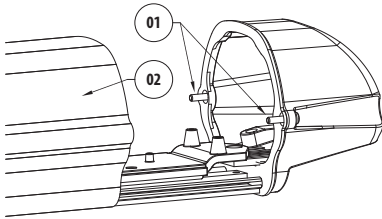
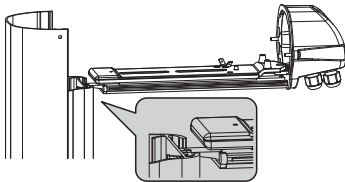

Fig. 01
Fig. 02
To open the housing (Fig. 01) unscrew the 2 screws (01) placed on the side in the middle of the rear cover plate, take the body out (02), hang it (Fig. 02) onto the suitable holder and leave the internal and external slides in the working position. Before closing the housing take off the protective nylon and put silicagel salts envelope into.
Fix the printed circuit on the slide's pre-arranged studs near the rear cover plate (Fig. 01, 03). Carry out the connections of the circuit to the external source of power 24Vac. The above circuit can also control the PTC thanks to the thermostat assembled.